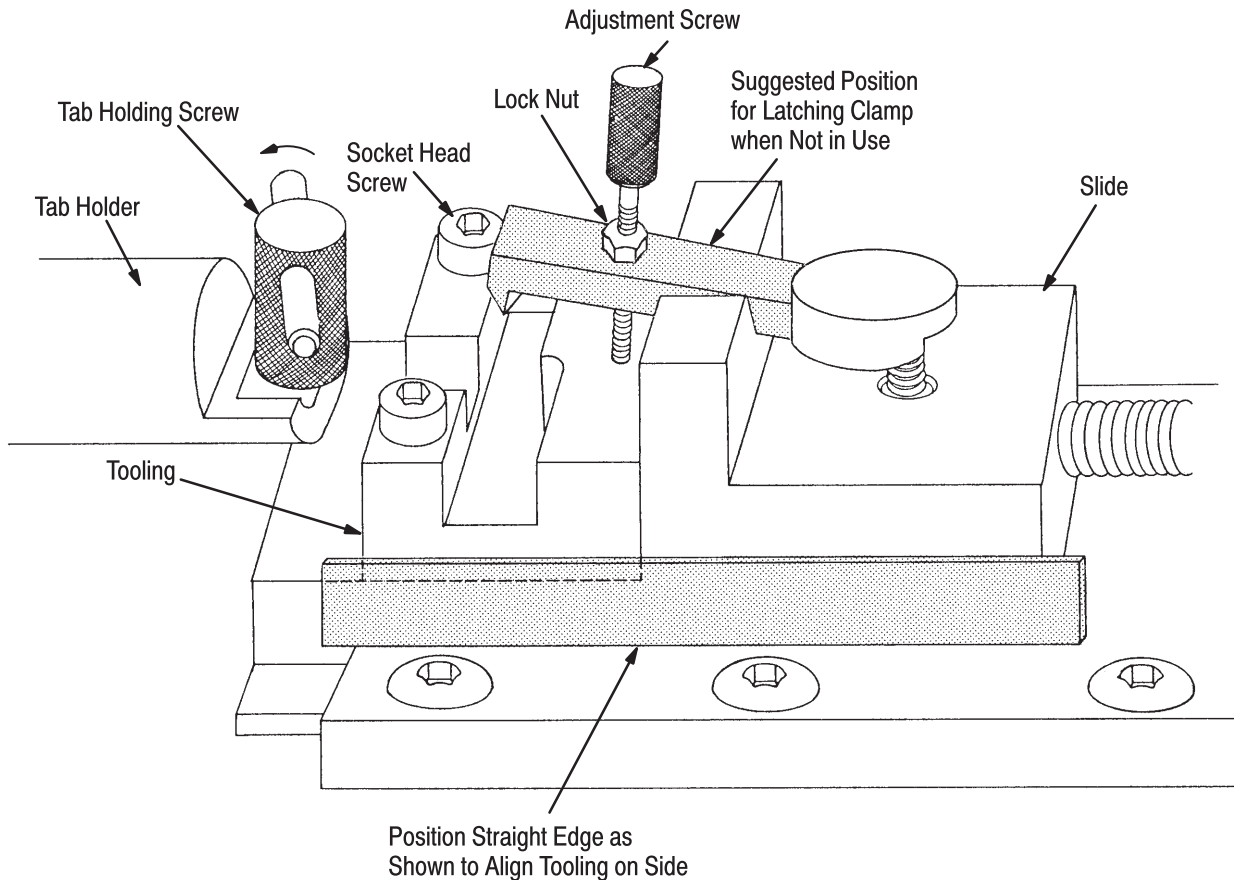

Figure 2
3. Install the socket head screws in the tooling. Make certain that the tooling is aligned with the tab holder before securing the screws. This can be accomplished by placing a straight edge or an equivalent piece of flat stock material against the slide and holding it in position until the screws are secured in the base. See Figure 2.
NOTE *When the latching clamp is not in use, the adjustment screw can be positioned as shown in Figure 2 to prevent interference during testing. When tooling does not butt against the slide, a suitable piece of stock material can be positioned between the tooling and the slide to provide support for the adjustment screw. Do not remove the latching clamp assembly from the gage.*